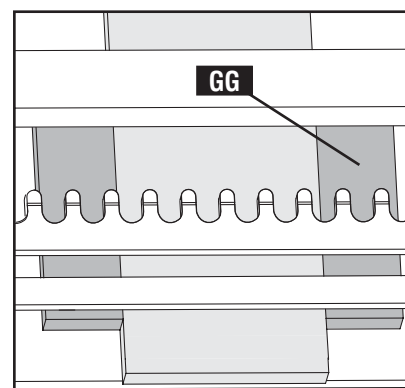

Fig. H21
**NOTE:** If you clamp scrap boards before making your cuts, make sure the scrap to the left edge of the tenon board is the same width as the scrap (GG) Fig. H21 to the right edge of the dado board. This is to make sure the left edge of the tenon board and the right edge of the dado board are positioned the same distance from the ends of the template before the cuts are made.